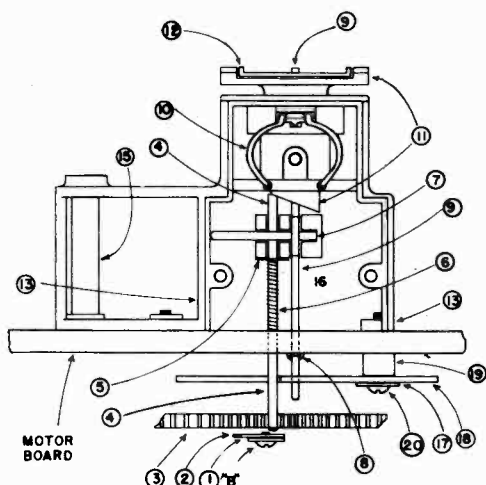

Fig. 3
**"B" Adjustment of 12-inch Landing Position. (See Figs. 3 and 6)**